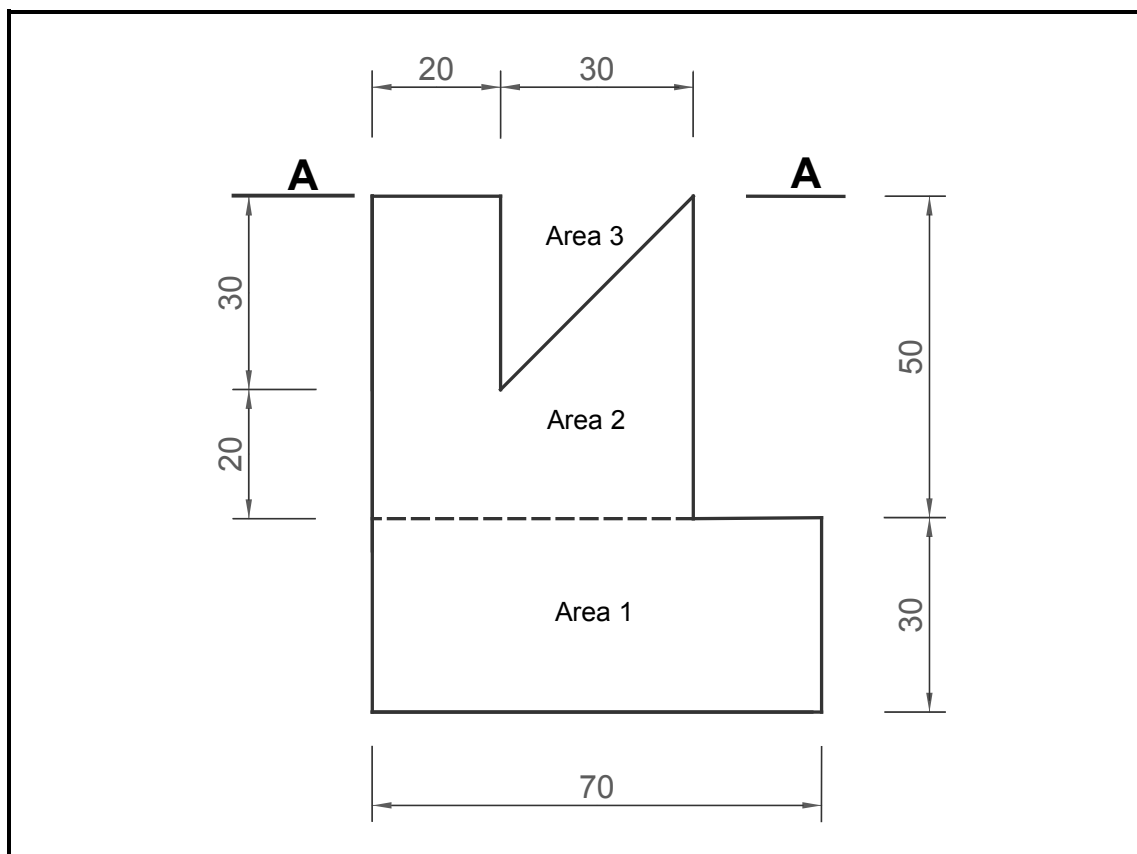

FIGURE 5.1
- 5.1 FIGURE 5.1 below shows a shaped lamina with a triangular hole. All dimensions are in millimetres.